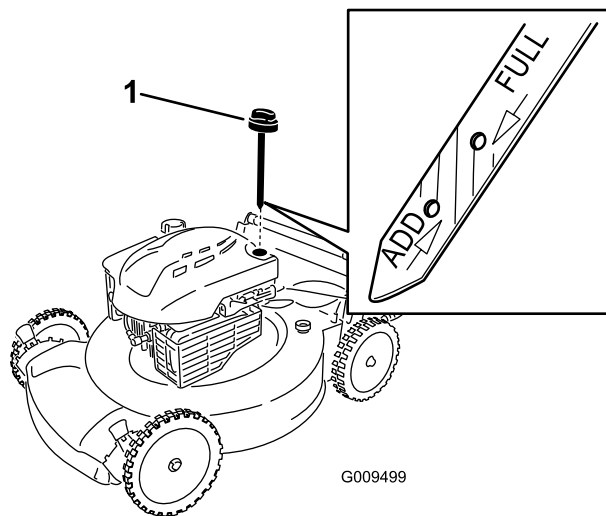

Figure 11
2. Remove the dipstick (Figure 11).
5. Remove the dipstick and read the oil level on the dipstick; refer to Figure 11.